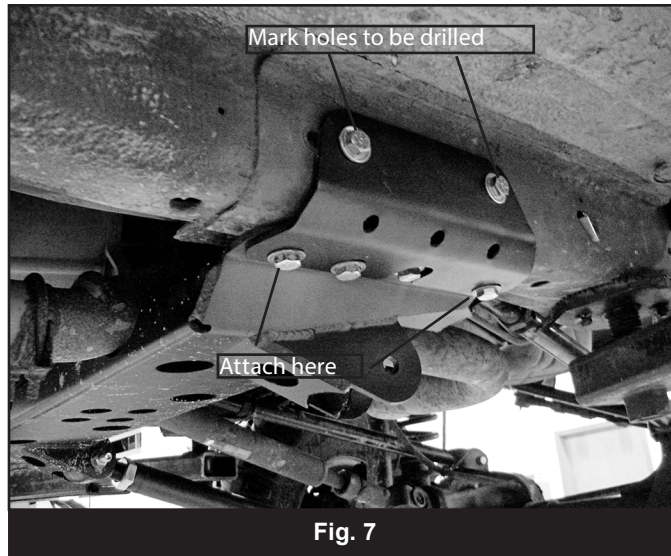

Fig. 7
16. Attach the side support plate so that they "sandwich" the crossmember between themselves and the frame (Fig 7). Attach the brackets with 10mm x 40mm bolts and 3/8" oversized washers (BP 715) in the forward-most and rearward-most holes in the side plates/crossmember. Ensure that the side plates are flush against the side of the frame and snug hardware.